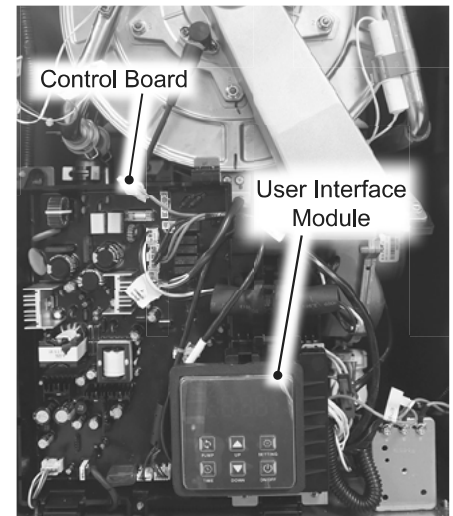

Figure 1 - User Interface Module
- 9 Locate the user interface module on the bottom front of the water heater. See Figure 1.